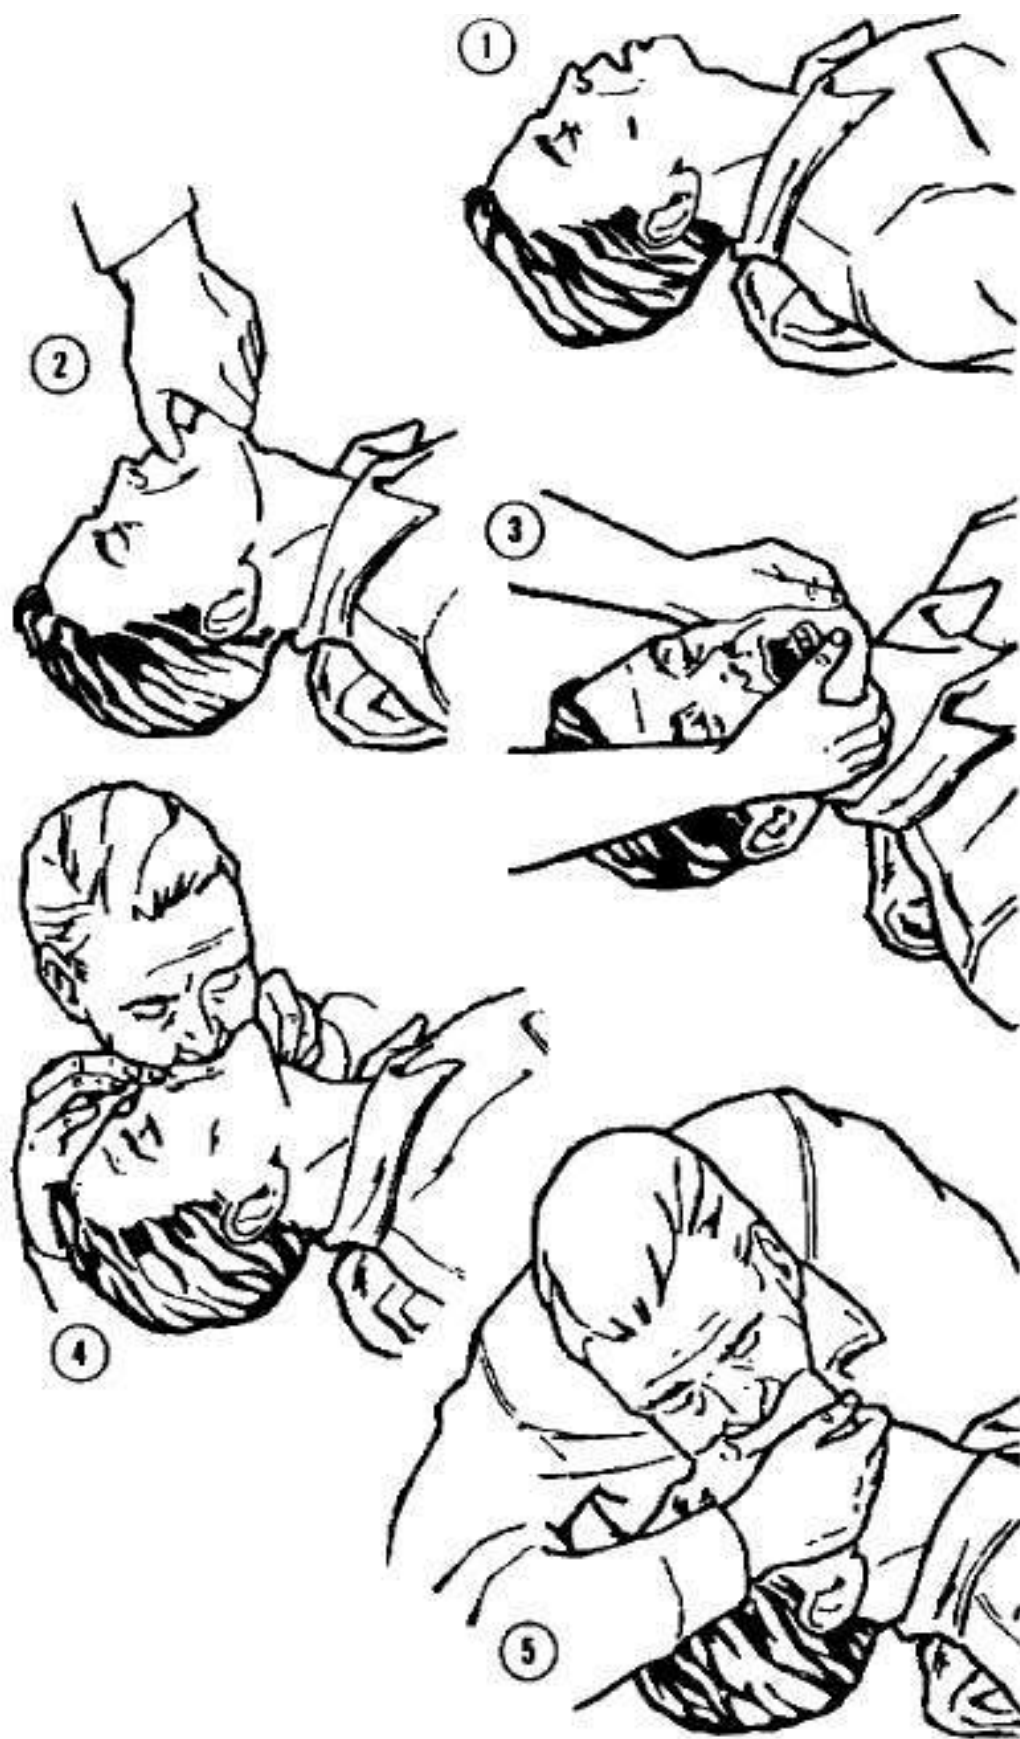

Figure 3-1. Steps in mouth-to-mouth and mouth-to-nose artificial respiration.
The only acceptable methods of artificial respiration, short of mechanical devices or surgical airway, are mouth-to-mouth and mouth-to-nose. Both are methods of inflating the patient's lungs with the aidman's breath. The mouth-to-mouth method is preferred, but when the patient's jaw is tightly closed by spasm or when he has a mouth wound, the mouth-to-nose method may be used. Both methods are illustrated in figure 3-1. Steps in the expired air technique are as follows.
- c. Turn his head face up. Tilt the head back so that the neck is stretched and the chin is up (fig 3-1①).
- d. Adjust the lower jaw so that it juts out (fig 3-1② and ③). This positioning moves the base of the tongue away from the back of the throat, thus clearing or enlarging the air passage to the lungs.
- e. Seal the airway opening (either the nose or the mouth) which is not being used. The seal must be secure to keep air from leaking during inflation. Pinch the nostril shut with your free fingers or seal the mouth by placing two fingers lengthwise over the patient's lips (fig 3-1④ and ⑤).
(1) Hold up his jaw more forcefully and hyperextend his neck.
(2) Blow harder into his mouth or nose, making sure air is not leaking from the other airway opening.
(3) Recheck his mouth for foreign matter. If there is a defi-